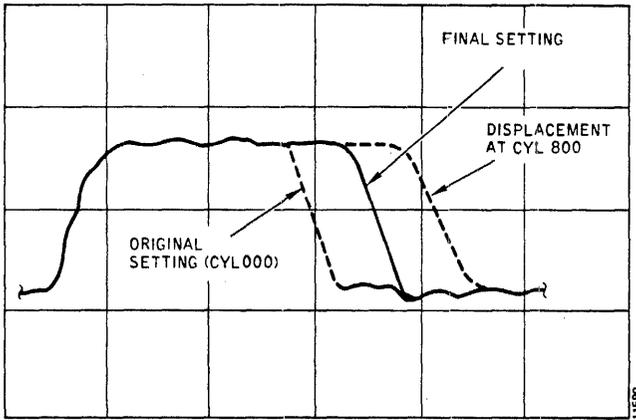

Figure 3-24. Clock Frequency Adjustment Waveform (T80)
6. Adjust the scope controls to display the last pulse of the Channel 2 waveform, placing the trailing edge of the pulse on the center vertical line of the graticule, as shown in Figure 3-24 (Original Setting).
8. Calculate the amount of displacement in the trailing edge between the Cylinder 000 and 800 head position, as shown in Figure 3-24.